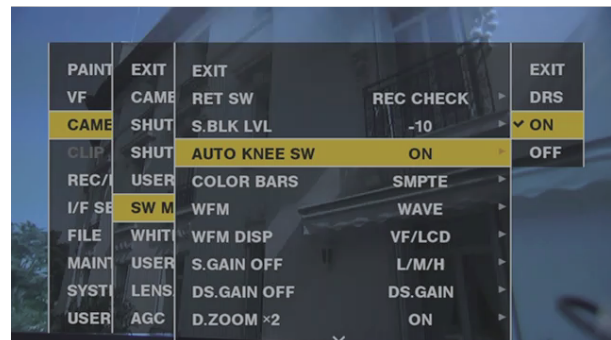

Fig. 2
- If there is a menu in the next level, [▶] is displayed in the menu items. Press the jog dial button, the cursor button (▶), or the <SET> button to open lower-level menus. (Fig. 2)